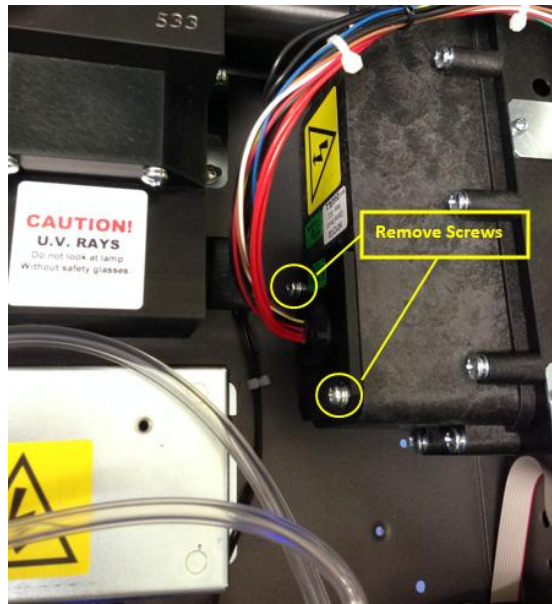

Figure 122 – Remove Desiccant Access Cap
2. Using an offset Phillips head screwdriver, remove the desiccant pack access cap from the PMT housing (Refer to Figure 122).